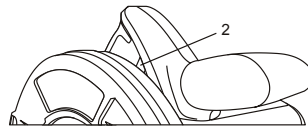

Fig. 8
While holding the lock-off switch in the pressed position, squeeze the trigger switch (2) to start the saw (Fig. 8).